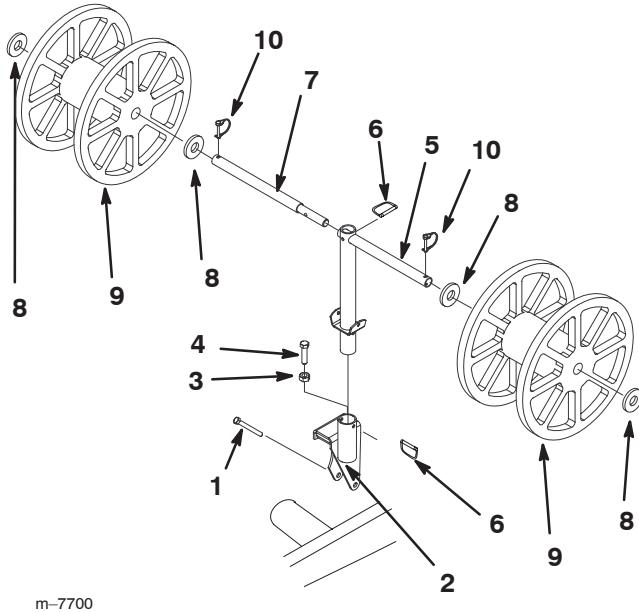

Figure 2
- Place the mounting tube bracket over the loader arm and secure it and the cylinder lock with a new bolt (4 inch) and the nut removed in step 1 (Fig. 2).
- Thread the jam nut onto the remaining bolt (2-1/2 inch) (Fig. 2).
- Thread the bolt into the hole in the top on the mounting tube bracket, tightening it securely against the loader arm (Fig. 2).
- Place the spool carrier into the mounting tube, orienting the horizontal tube on the carrier parallel with the crossbar on the traction unit (Fig. 2).
- Secure the spool carrier to the mounting tube with a lynch pin with a rectangular retainer (Fig. 2).
- Slide the secondary spool carrier into the side hole in the top of the spool carrier (Fig. 2).
- Secure the secondary spool carrier with a lynch pin with a rectangular retainer (Fig. 2).
- Place a washer over the end of the spool carrier or secondary spool carrier (Fig. 2).
- Slide the spool onto the carrier (Fig. 2).
- Secure the spool with a washer and a lynch pin with a semi-circular retainer (Fig. 2).